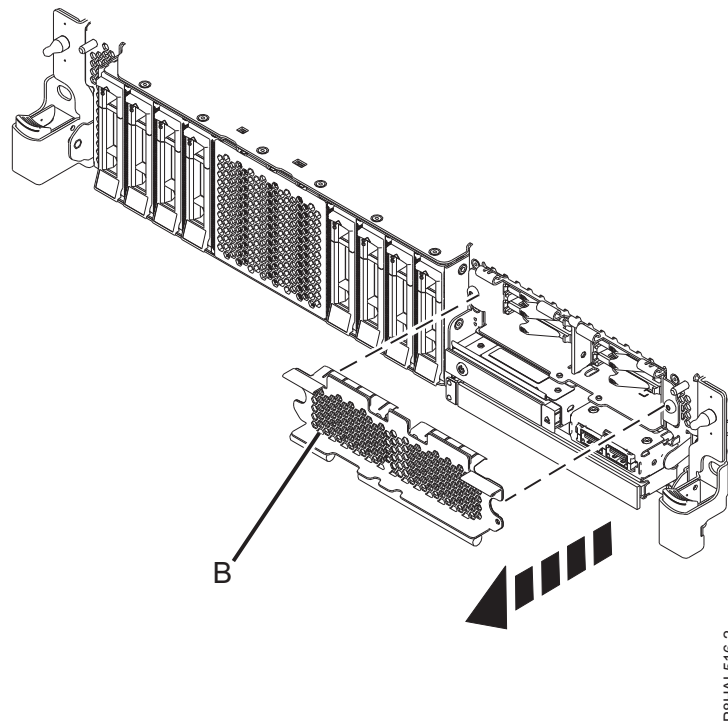

Figure 52. Removing the SSD cage cover to access the SSD slots in an expanded function system
11. To access the SSD slots, remove the perforated plate **(B)** covering the SSD cage as shown in Figure 52.